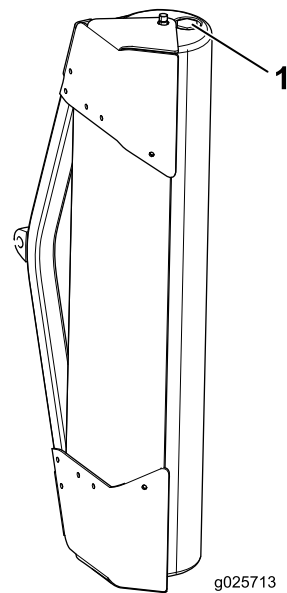

Figure 3
6. Using a flat screwdriver, remove the plug from the lawn striper trailer, fill it with approximately 9 kg (20 lb) of sand, and replace the plug (Figure 3).